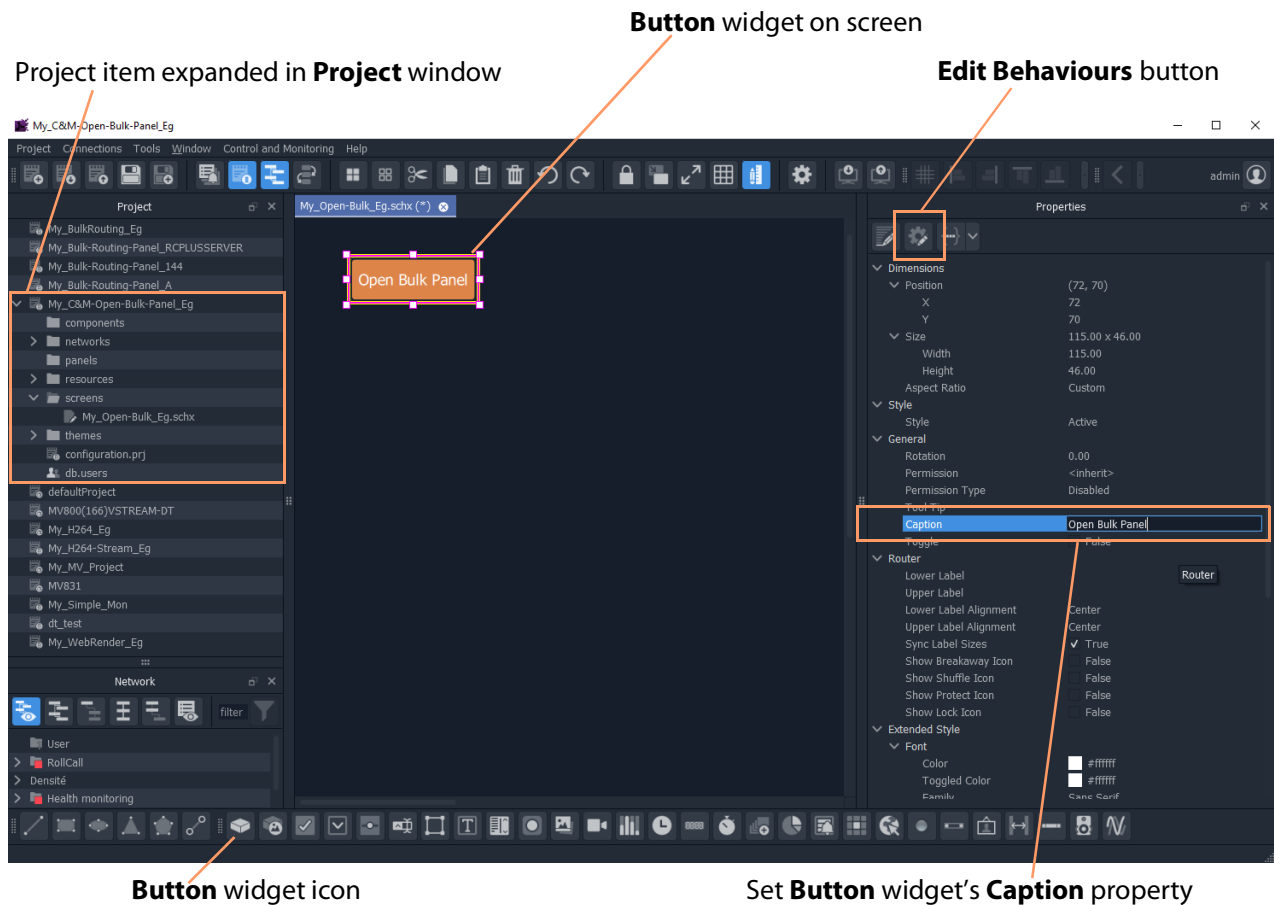

Fig. 11-91: C&M Project Screen with Button Widget
- 5 Edit the **Button** widget's **Caption** property. See Figure 11-91.